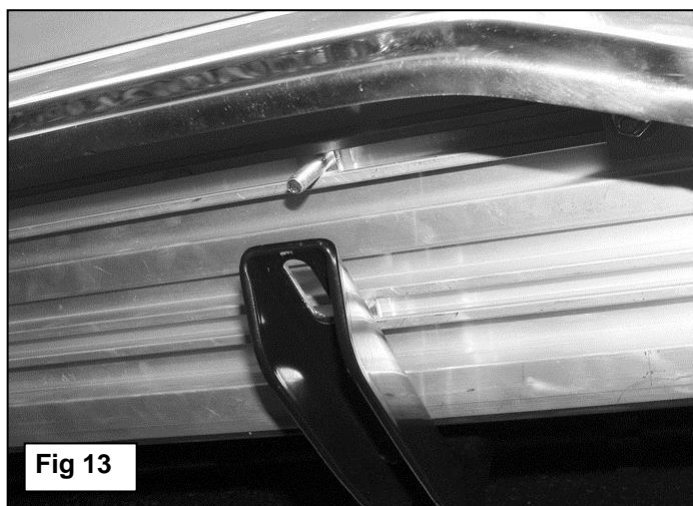

Fig 13
11. Carefully position the Driver/Left Running Board onto the (2) Mounting Brackets. Slide the T-Bolts into position and through the slots in the Brackets, **(Figure 13)**. Attach the Board to the Brackets with (4) 6mm Flat Washers, (4) 6mm Lock washers and (4) 6mm Hex Nuts, **(Figure 14)**. Do not tighten hardware at this time.